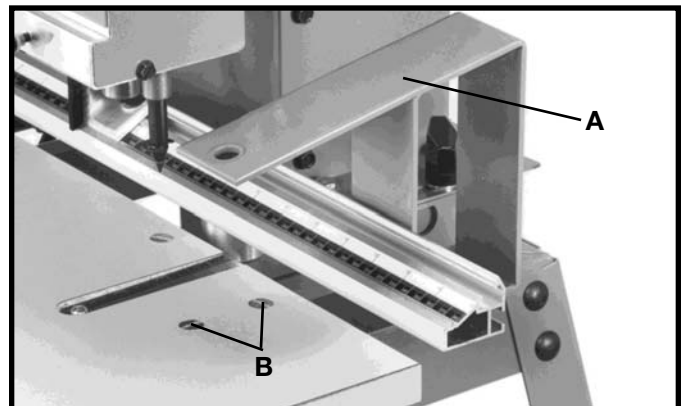

Fig. 30
2. Figure 30 illustrates one of the two clamp brackets (A) assembled to the table with the two 1-1/4" long flat head screws (B). Assemble remaining clamp bracket to other end of table in the same manner.